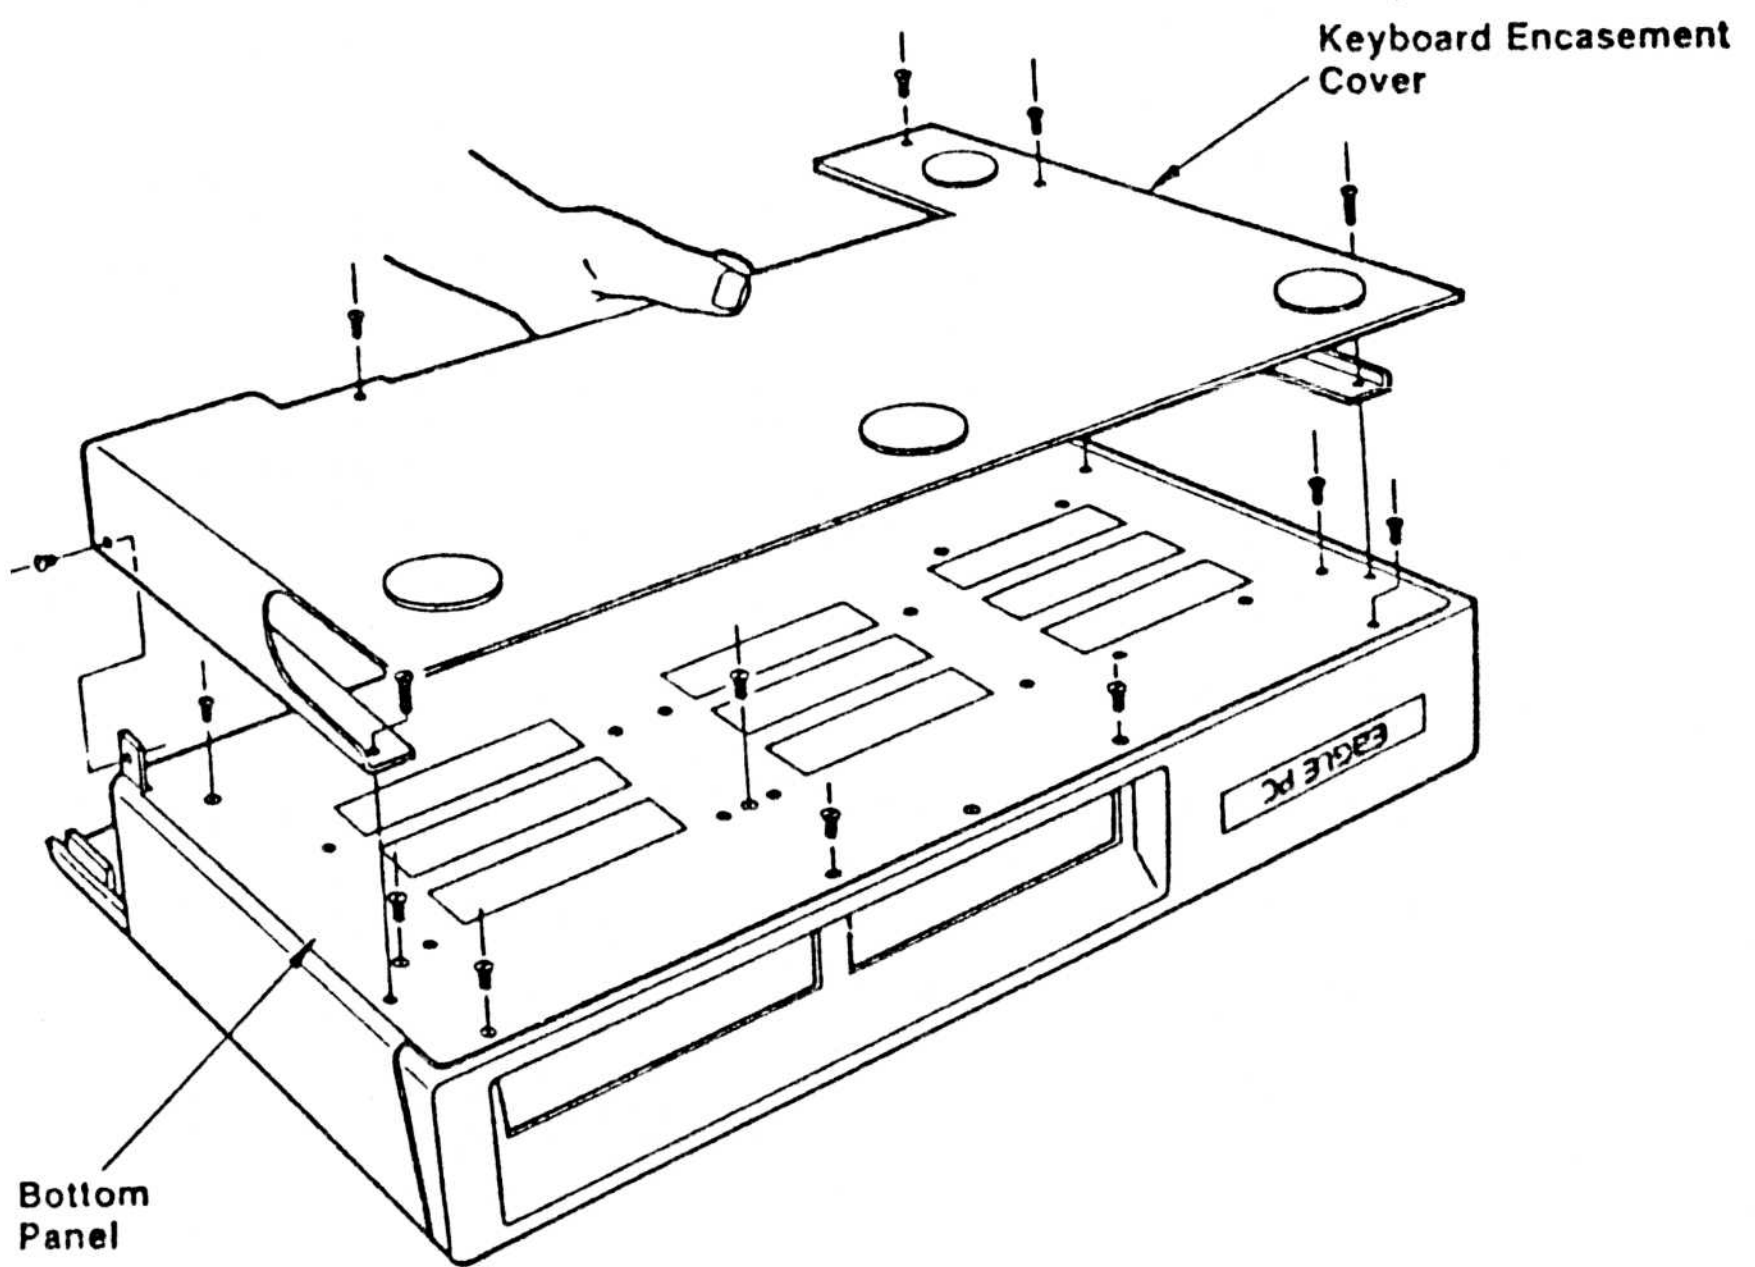

FIGURE 3: PC ENCLOSURE REMOVAL
- STEP 8** Unscrew seven screws in the main unit: three screws on the bottom of the keyboard encasement cover, one screw on each side of the keyboard encasement cover, and two screws in the keyboard encasement cover. Refer to Figure 3. Set the seven screws aside in a safe place.
- STEP 11** Remove eight screws around the edges of the bottom panel of the main unit and one screw in the center of the bottom panel of the main unit. See Figure 3. Set the nine screws aside in a safe place.